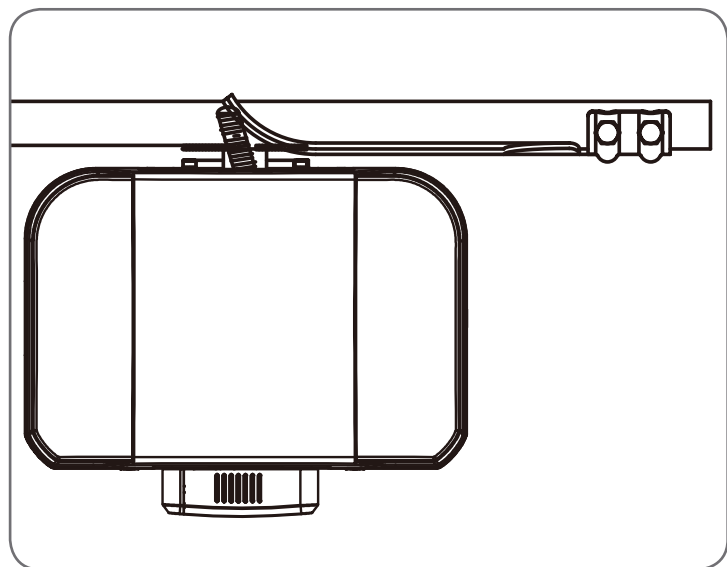

Fig 4.2
- Place the metal feet (5), metal base plate (3) and Drive unit (1) in position. If satisfied with the position, remove the Drive Unit and metal base plate (Fig. 4.2).
- Mark the position of the four holes in the metal feet (5). Drill the four holes.
- Hammer the dynabolts (4) into position, place metal feet (5) and fix with the four washers, spring washers and nuts (4).
- Place the metal base plate (3) onto of metal feet and align holes with metal feet.
- Put Drive unit (1) onto metal base plate and affix with bolts and washers provided. Remember when tightening the bolts to allow fine adjustment of the NeoSlider™ later on.